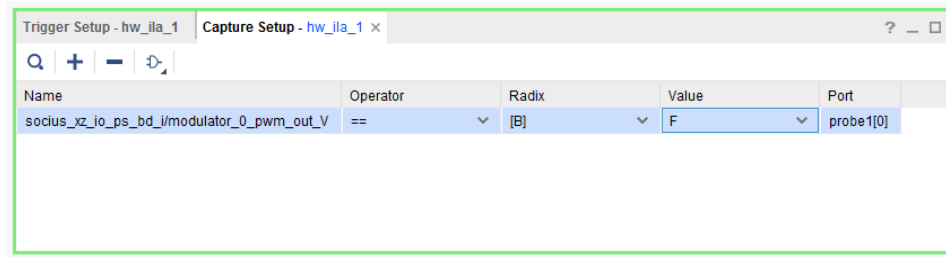

Figure 3.18: Changing the Compare Values in the Capture Setup window
8. In the **Add Probes** window select only **modulator_0_pwm_out_V_1** probe and click **OK**, see Figure 3.18.
9. In the **Capture Setup** window, leave **==** (equal) value in the **Operator** cell, **[B]** (Binary) value in the **Radix** cell and set the **Value** parameter to be **F** (1-to-0 transition), as it is shown on the Figure 3.18.